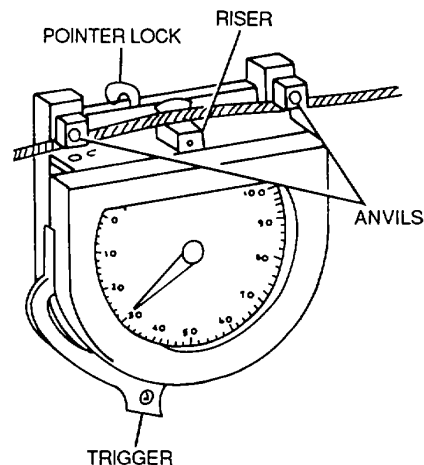

Figure 7-4. Tensiometer
*a. Description.* Several manufactures make a variety of tensiometers. Each type is designed for different kinds of cable, cable sizes, and cable tensions. A typical tensiometer is shown in figure 7-4. Cable tension is determined by measuring the amount of force needed to make an offset in the cable between two hardened steel blocks, called anvils. A riser or plunger is pressed against the cable to form the offset.